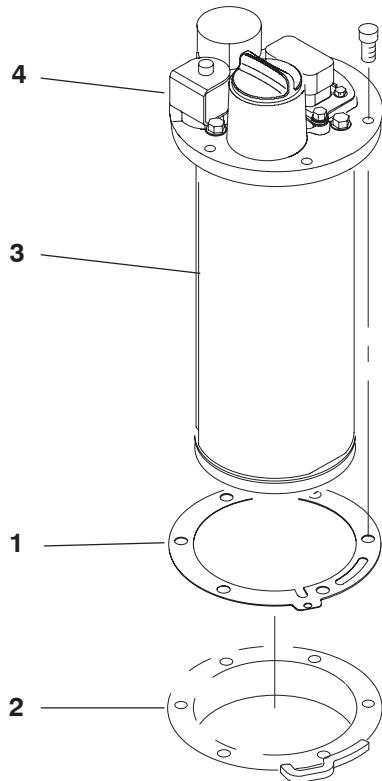

Figure 7
- Position new flange gasket onto tank aligning mounting holes (Fig. 7). Holes are not symmetrical so make sure gasket is properly positioned.
- Insert leak detector into tank opening while aligning housing mounting with holes in gasket (Fig. 7).
- Secure leak detector housing and gasket to tank with (6) socket head capscrews (Fig. 7). Torque screws to 100–125 in-lb.
- Valve open circuit (LED blinking): Check / replace TurfDefender electric solenoid valve (Fig. 7) or wires.
- Valve short circuit (LED blinking): Check / replace TurfDefender electric solenoid valve (Fig. 7) or wires.